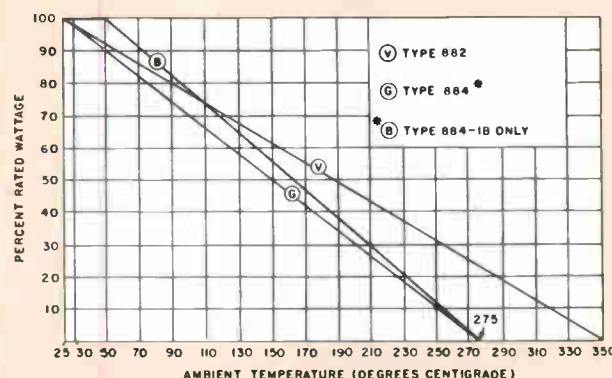

Fig. 18: Derating curves for Types 882 and 884 Resistors.
This type is intended for broad commercial use. Standard tolerance is ±3% (for values 1 ohm and higher) which is supplied at no extra cost over ±5% tolerance. Closer tolerances are available. These units derate to zero watts at 350°C ambient (see Fig. 18); TC = 0±20ppm/°C 10 ohms and above; insulation tested at 1000 VAC (see introduction preceding).
①See derating graph Fig. 18 for ambients above 25°C.
②Ohmite's standard power tolerance is 3% supplied at no extra charge over 5% for values 1 ohm and higher; 10% for values below 1 ohm. Closer tolerances are available.
Type 884 units are available in tolerances from 3% to 0.05% and derate to zero watts at 275°C ambient (Fig. 18); TC = 0±20ppm/°C for 10 ohms and above; insulation tested at 1000 VAC except 500 volts for 1 watt size (see introduction preceding page).
②Low resistance values (20 Ω and less) are measured at a point on each lead ⅜"±⅛" from body of resistor. Special tolerances to 0.05% can be supplied. For all values 10 ohms and below, it is advisable to use Kelvin bridge technique to eliminate errors due to lead and contact resistance.
③Styles 884-3, 884-5 and 884-10 can be supplied for use as MIL-R-26C Styles RW69G, RW67G and RW68G, respectively. These have better T.C., and stability characteristics than required by MIL-R-26C. The styles supplied under Characteristic P of proposed MIL-R-26D (Bul. 101 or Cat. 50) are furnished under Ohmite Type 881P which is the military equivalent of commercial Type 884.